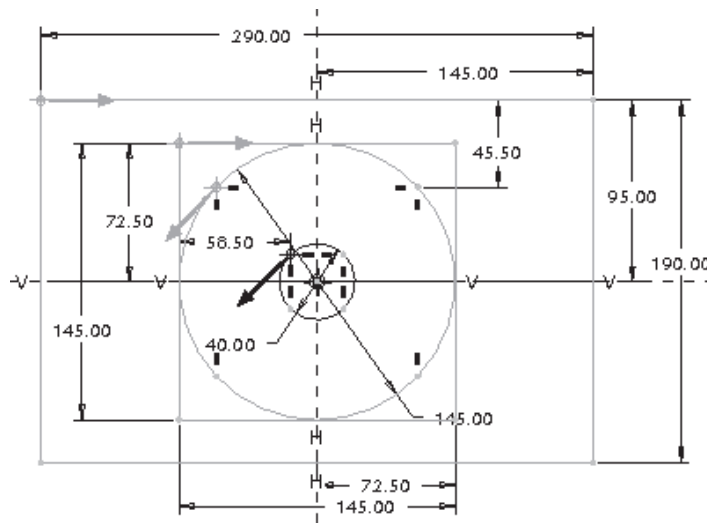

Figure 7-112 All four completed sections before giving depth
- e. Create the sketch for the fourth section, refer to Figure 7-112. Give the depth between section numbers 1 and 2, 2 and 3, and 3 and 4.
Figure 7-112 shows all sections completed with dimensions.